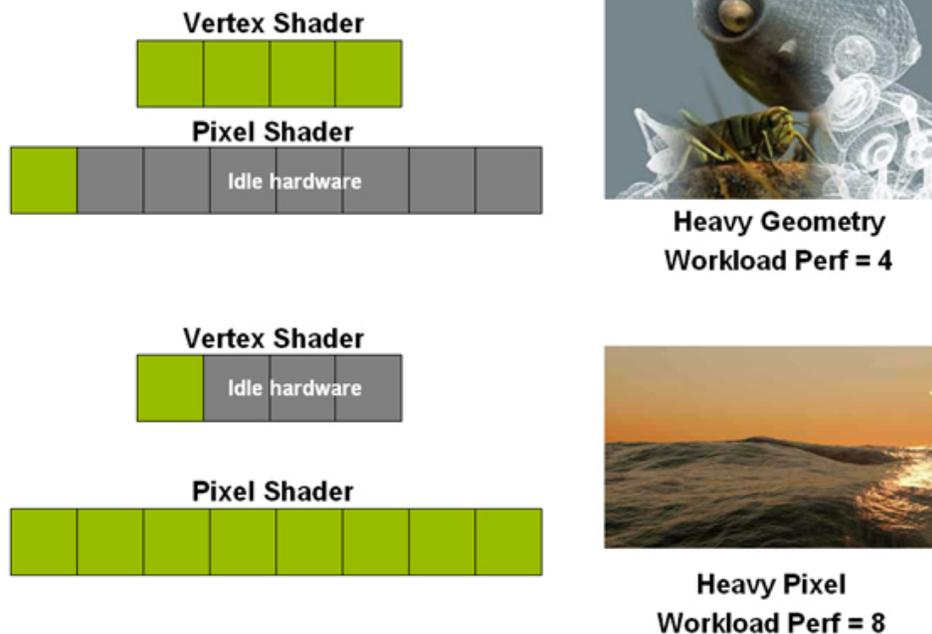

Figure 15. Fixed Shader Performance Characteristics
With the GeForce 8800 architecture, the image in Figure 15 shows a collection of stream processors (SPs) with associated numbers of Texture Filtering (TF), Texture Addressing (TA), and cache units to ensure a balanced design. The ratios of unit types shown below in a subset slice of a typical GeForce 8800 GPU are maintained when scaling up to 128 SPs specifically in a GeForce 8800 GTX GPU.